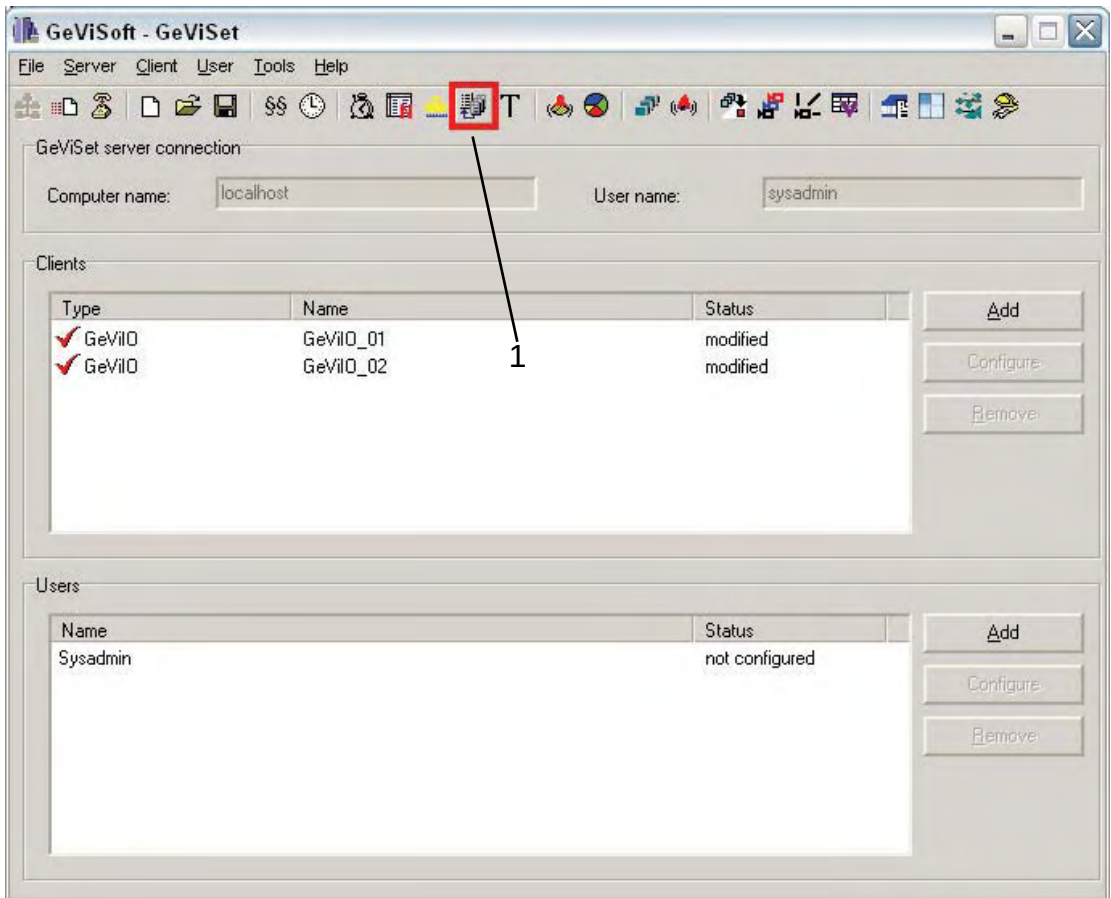
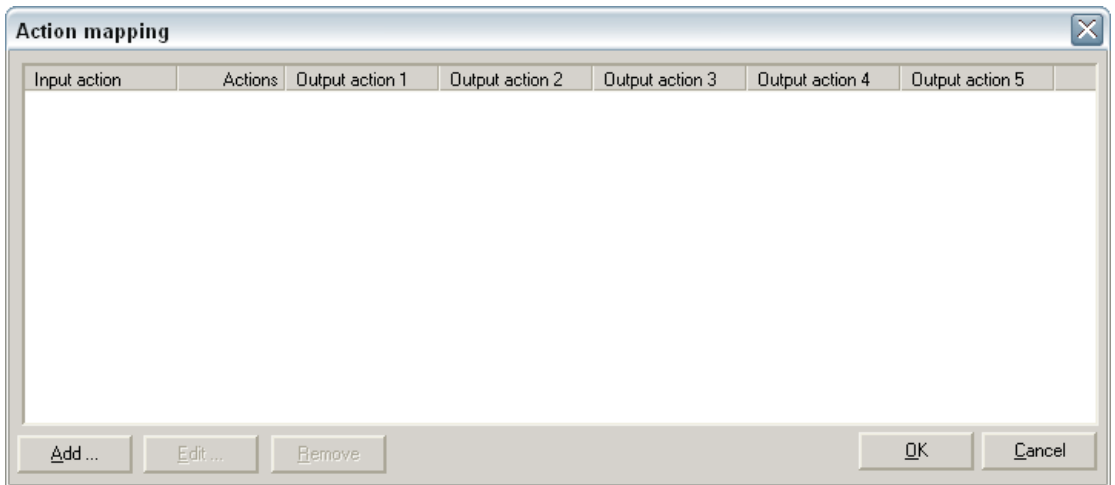

Figure 8-15: GeViSoft mapping instructions
Figure 8-16: Dialog box mapping instructions
- In order to edit the GeViSoft mapping instructions, select the button "Mapping instructions" (see 1 in figure 8-15). The dialog box for the entry of new mapping instructions opens. (figure 8-16).